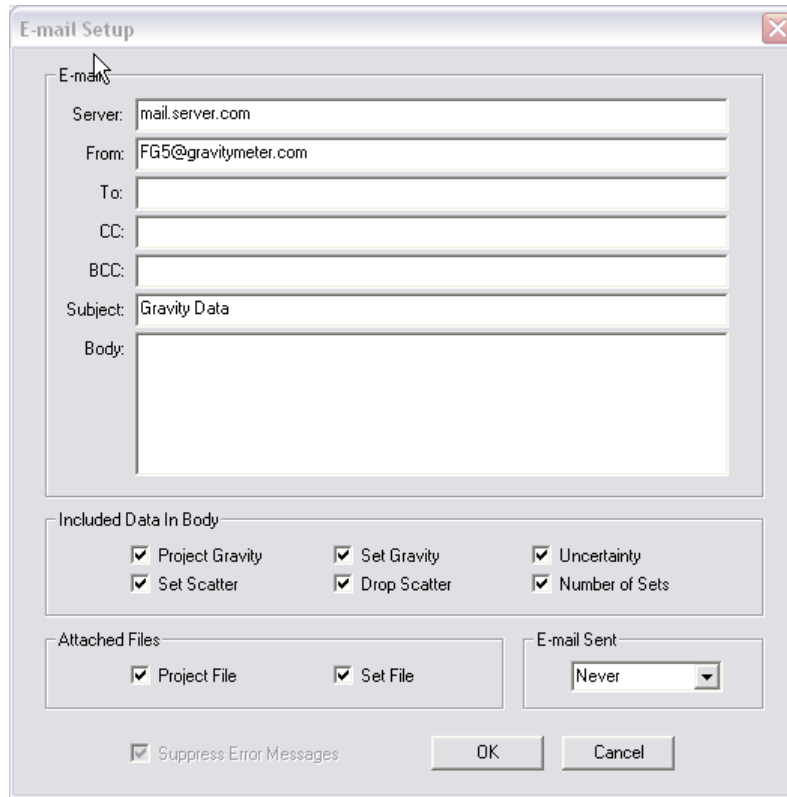

Figure 22. Email notification setup window.
**Email.** For system controllers with an internet connection, g can be set up to send periodic emails with real time processing results. (Note that by default email notification is off). Figure 22 shows the Email Notification Dialog Box. The User must enter an email server, a valid identity for that server, and a valid recipient. Note that any errors encountered are suppressed to avoid interference with data acquisition. If enabled, the default information provided is